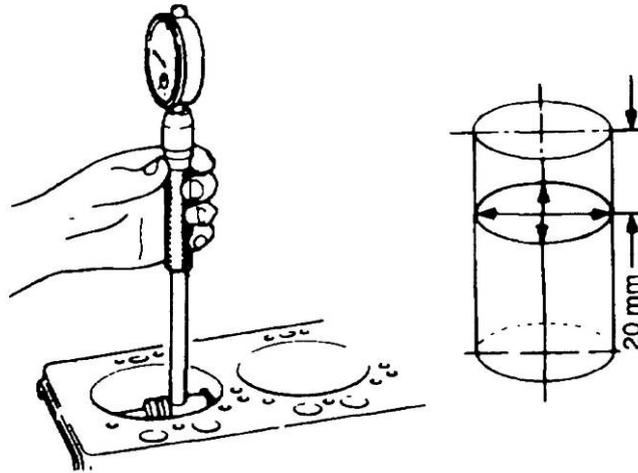

Figure 21 Measuring the Cylinder Bore
- e. Measure the bore of each cylinder liner by inserting an inside diameter micrometer 20 mm down into the cylinder bore. Take a reading from two points approximately 90 degrees apart (Figure 21). The standard dimension of the bore is 102.021 to 102.20 mm (4.0166 to 4.0236 in). Replace the cylinder liners if they are worn beyond this limit in accordance with Para 20.